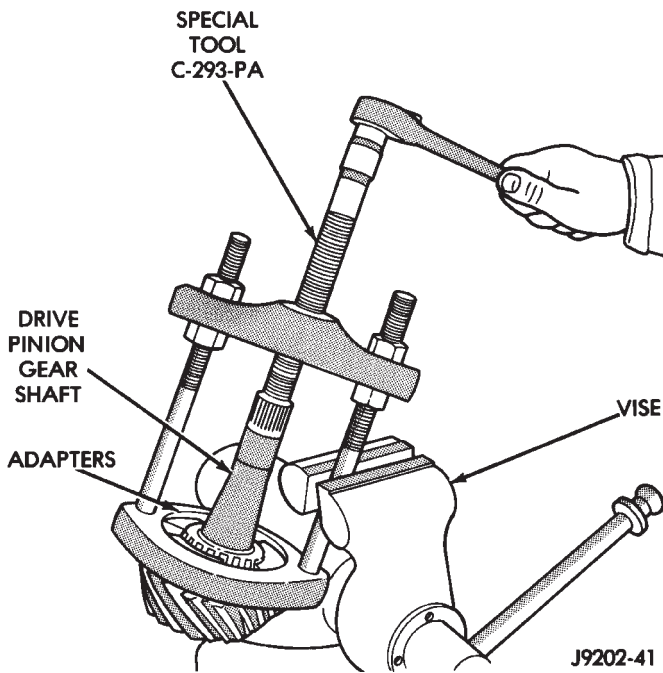

Fig. 29 Rear Bearing Removal
(13) Remove the rear bearing from the pinion (Fig. 29) with Puller/Press C-293-PA and Adapters C-293-47.